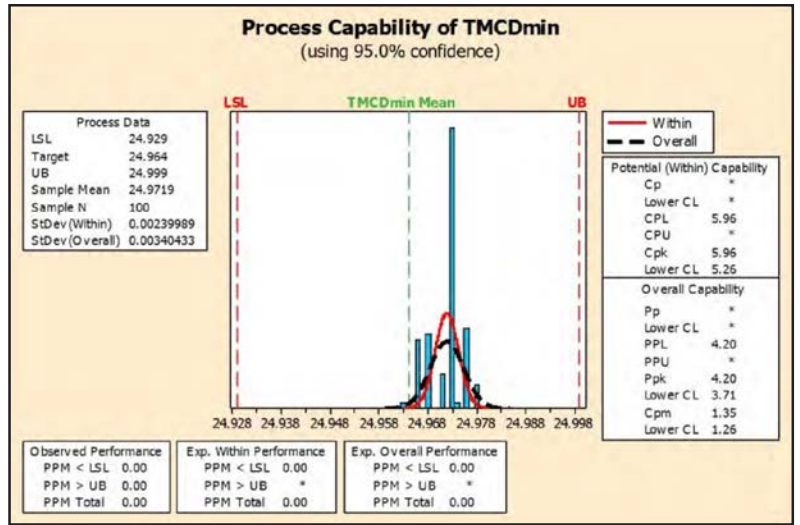
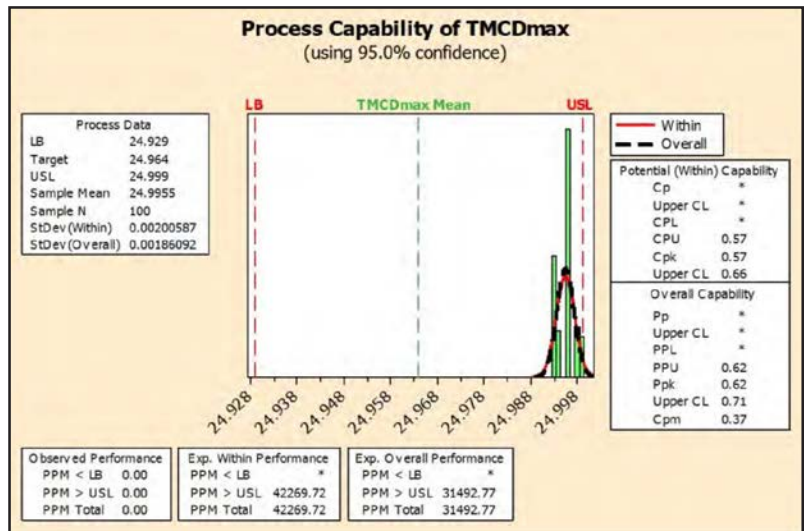

Figure 13 Minimum tight mesh center distance capability study.
Figure 14 Maximum tight mesh center distance capability study.
In order to calculate Cpk or Ppk on tight mesh center distance, two separate capability studies must be performed (Figs. 13–14). The first study uses the minimum TMCD data in comparison to the minimum specification value. By setting an upper-bound on the maximum TMCD specification, the capability metric is guaranteed to be taken against the lower specification value only. The second half of the study uses the maximum TMCD data against the maximum specification value. This time the minimum TMCD specification value is selected as a lower-bound to guarantee that the capability metric is only taken against the maximum specification value. The actual calculated Cpk or Ppk will be the lesser of the two reported values; in (Figs. 13 and 14) the actual TMCD capability Cpk = 0.57.
*NOTE: Using the upper- and lower-bound method reports a Cpk or Ppk as being towards the desired specification only. Had the upper-bound method not been used (Fig. 13), the minimum tight mesh center distance, Cpk, would have been incorrectly reported towards the upper specification, since the data is closer to the upper specification limit. In (Fig. 14) the use of the lower-bound made no difference to the final result since the actual data is in fact closer to the upper specification.*